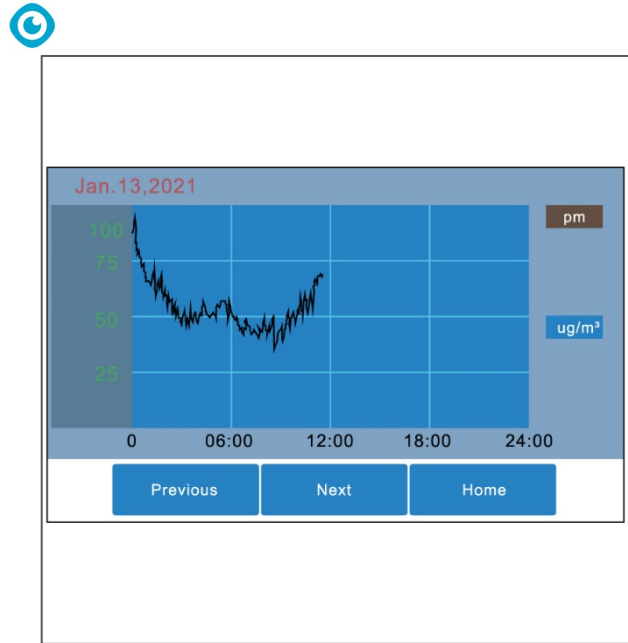

Figure 13
2. The PM overview opens (Figure 13).